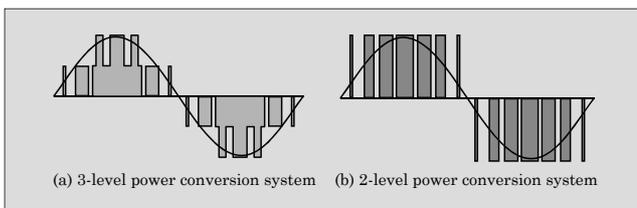

Fig.8 Comparison of switching waveforms
- (b) Since the switching waveform is step-wise as shown in Fig. 8, it has reduced harmonic voltage compared with 2-level power conversion circuits. As a result, loss caused by filter circuit harmonics is reduced, and this reduces fixed loss (no-load loss) and improves efficiency in the low load range while also making it possible to reduce the size of the reactor and capacitor.